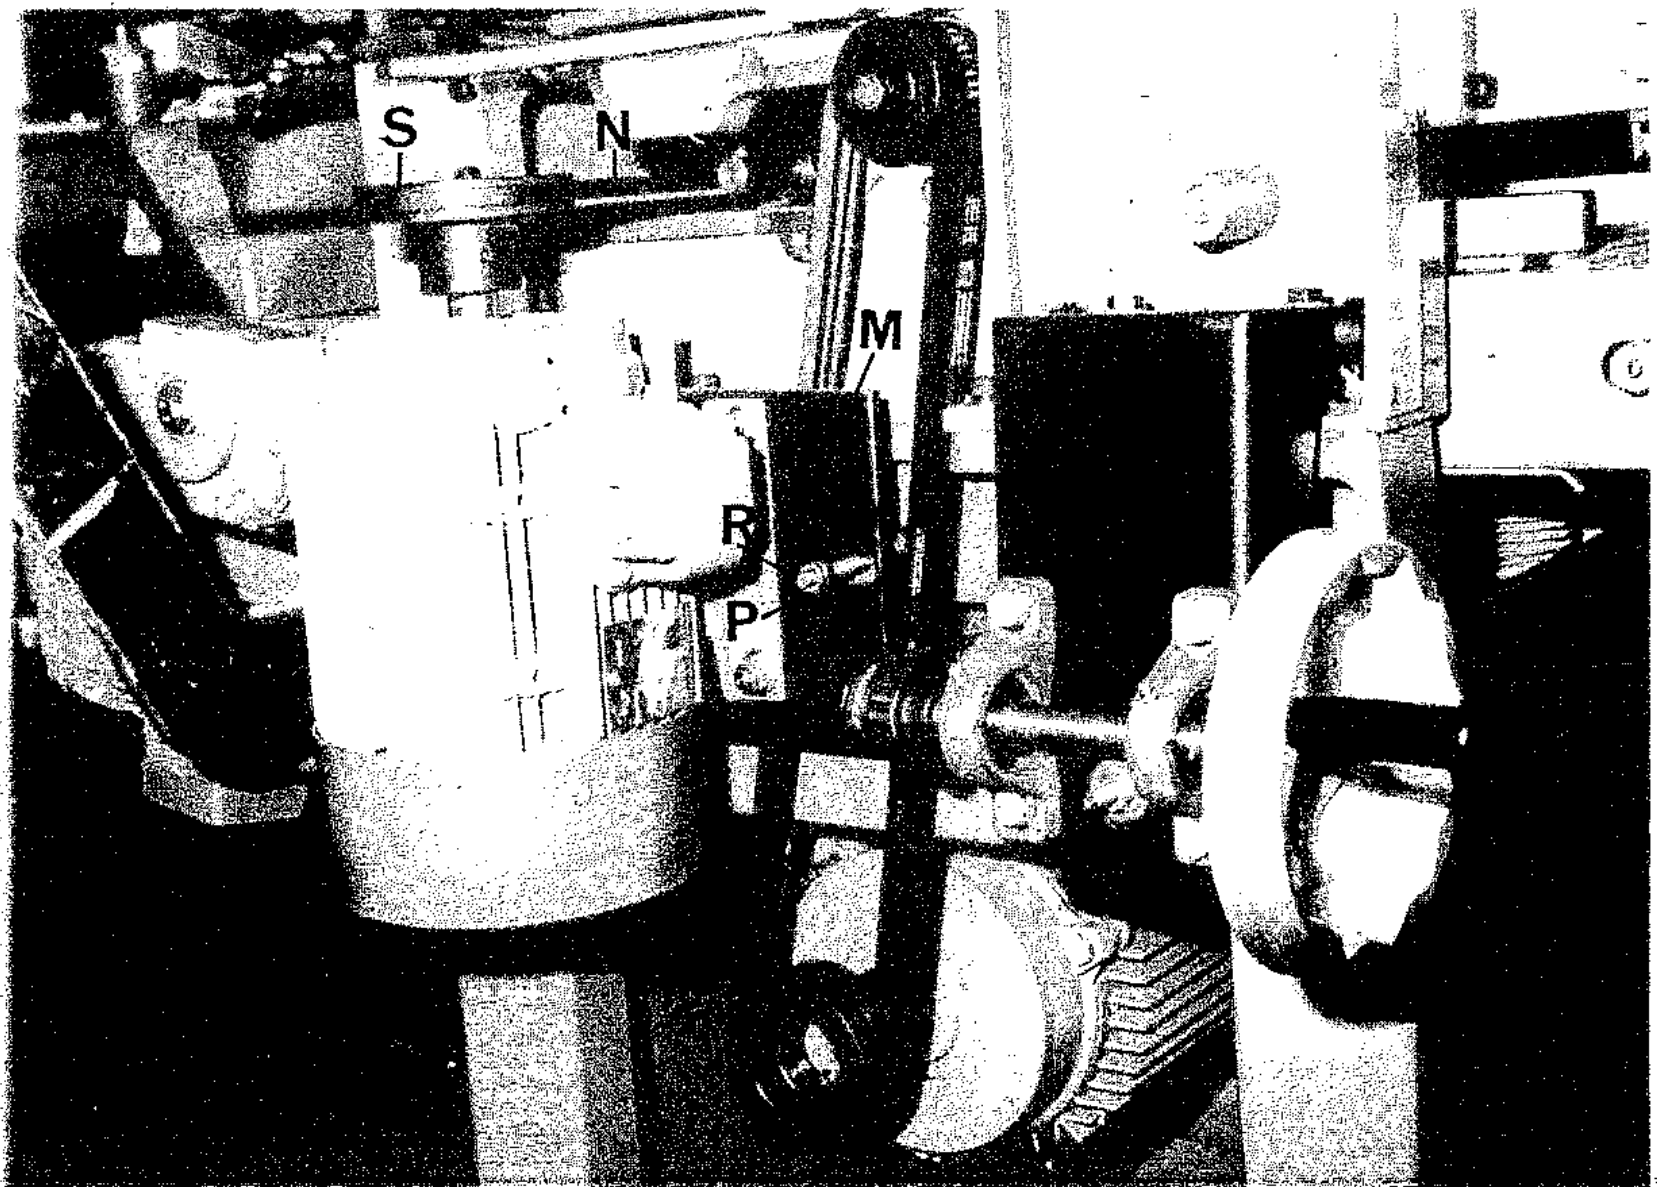

FIG.27
- c) Depress pivot plate "M" FIG.27 to remove thicknesser side head drive belt "N" from drive pulley "S".
- d) Depress pivot plate "M" FIG.27 to remove thicknesser side head drive belt "N" from drive pulley "S".